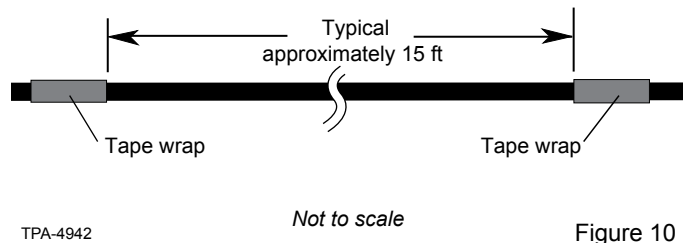

Figure 10
- Step 1:** Identify the location to access the jacket for mid-span cable entry and mark each end with a wrap of tape. Typical access length is 15 ft (Figure 10).